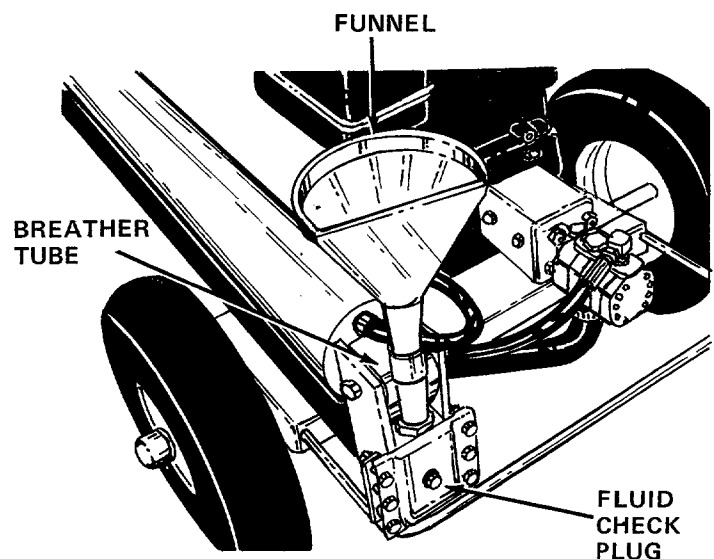

FIGURE 11
- Remove the fluid check plug from the back of the log splitter. See figure 11. If fluid starts to come out of the hole, fluid level is correct. If it does not, replace the check plug loosely, pull the cap off the breather tube, and add Dexron II automatic transmission fluid until fluid starts out of the hole when the plug is removed.